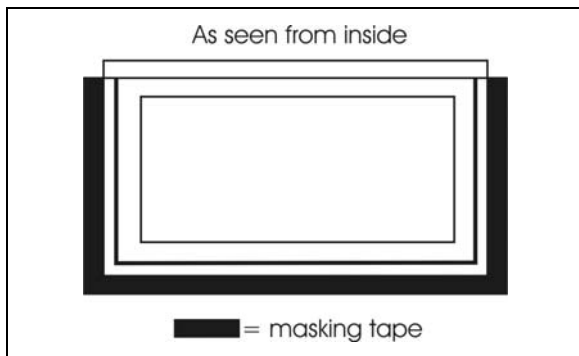

FIGURE 68: MASKING TAPE APPLICATION
- Place masking tape on the inside of the window pane as per FIGURE 68 to protect it from smudge;